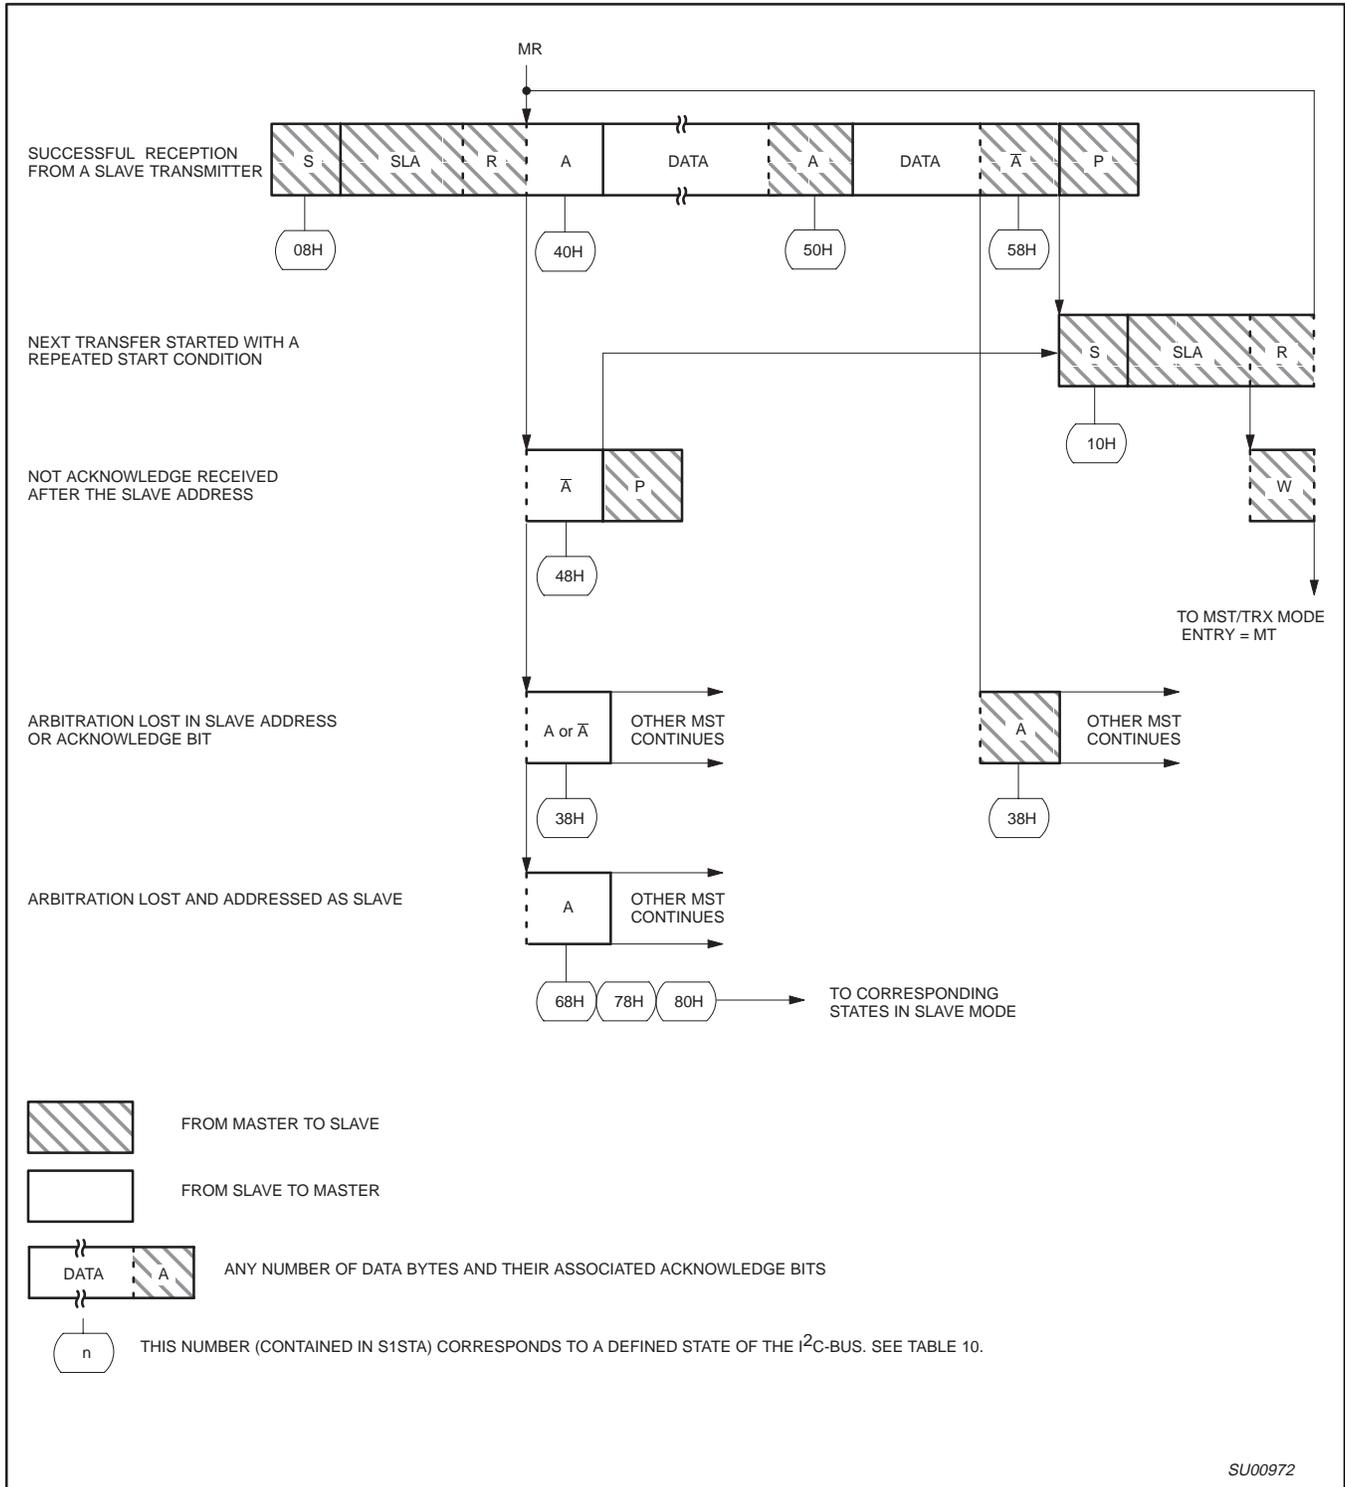

Figure 29. Format and States in the Master Receiver Mode
**Master Receiver Mode:** In the master receiver mode, a number of data bytes are received from a slave transmitter (see Figure 29). The transfer is initialized as in the master transmitter mode. When the start condition has been transmitted, the interrupt service routine must load S1DAT with the 7-bit slave address and the data direction bit (SLA+R). The SI bit in S1CON must then be cleared before the serial transfer can continue.